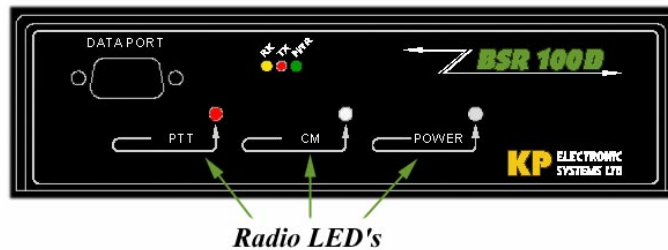

Figure 8: Self-Test LEDs
2. Observe the Self-Test LEDs (see *Figure 8: Self-Test LEDs* and *Table 6: Self-Test LEDs* for full description)